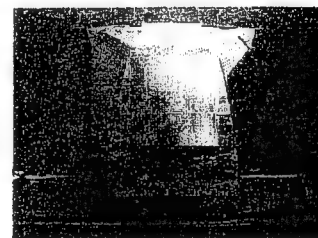

Fig. 5
Step 3: To remove the backcover, you can see FIG.5
- After remove the metal frame (Fig. 5), to remove the metal shield on rear side of Video panel for measurement.